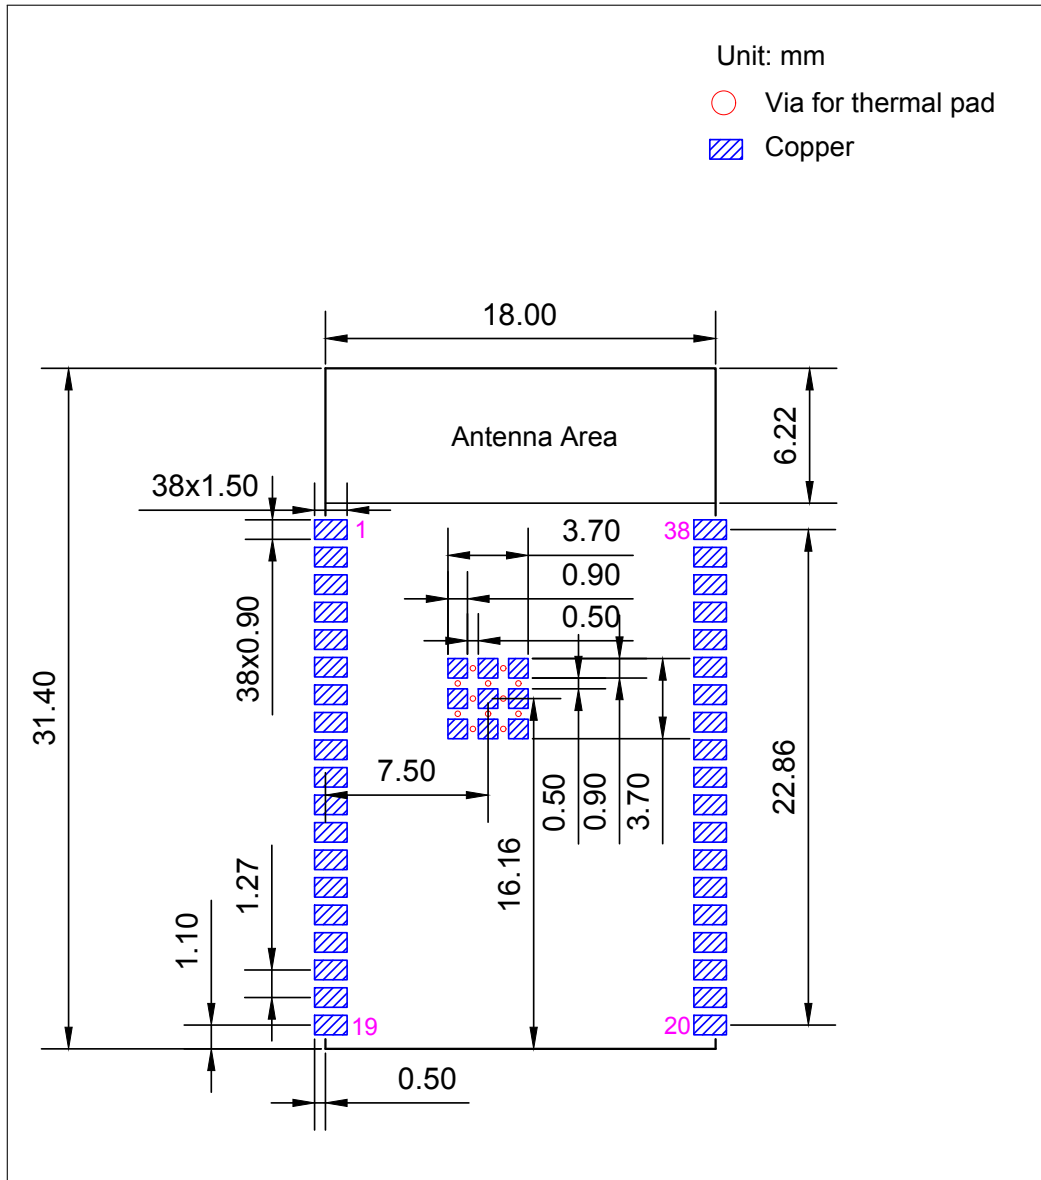

Figure 8: Recommended PCB Land Pattern
- Figures for recommended PCB land patterns with all the dimensions needed for PCB design. See Figure 8 Recommended PCB Land Pattern.
- Source files of recommended PCB land patterns to measure dimensions not covered in Figure 8. You can view the source files for ESP32-WROVER-B and ESP32-WROVER-IB with Autodesk Viewer.